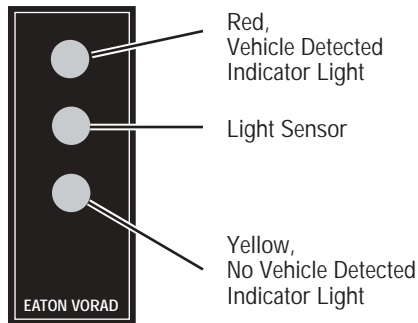

Figure 9
Red/Triple Tone	Indicator light illuminates after objects have been detected by the Side Sensor(s), and remain in proximity for more than one (1) second. When the right turn signal is activated and the Side Sensor detects an object, the Red indicator light comes on, and the Driver Display Unit speaker sounds a triple tone. The Tone is sounded only once per activation of the turn signal. (See Figure 9)
Light Sensor	Photo sensor senses ambient light and increases brightness of indicator lights in the daytime and decreases brightness of indicator lights during nighttime. Takes ten seconds to activate. (See Figure 9)
Yellow	Indicator light stays on when no objects are detected by the Side Sensor(s). (See Figure 9)
Red and Yellow	Indicates the Side Sensor is performing a start-up self-test or there is a failure. (See Figure 9)